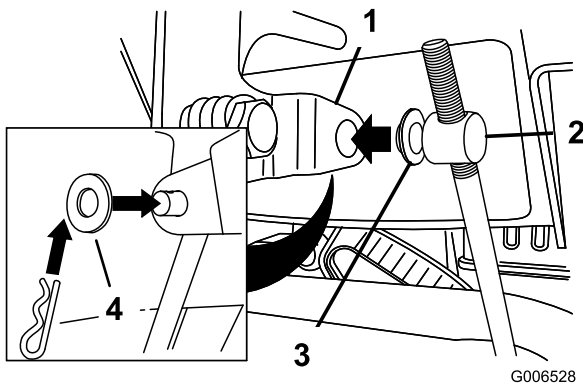

Figure 6
3. Place a flat washer on the trunnion (Figure 6).
- B. Disconnect the trunnion from the speed-selector lever (Figure 6).
- C. Turn the trunnion upward (counterclockwise) on the speed-control rod (Figure 6).
- D. Connect the trunnion to the speed-selector lever (Figure 6).
- C. Turn the trunnion downward (clockwise) on the speed-control rod (Figure 6).